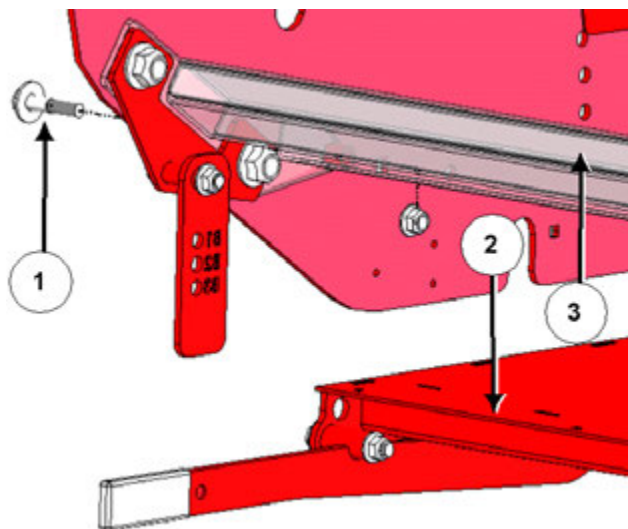

Figure 11: Remove lower discharge door
- c. Carefully remove the bolts (1) fastening the discharge door (2) to the front and rear tub walls, ensuring to properly support the door. Carefully lower the door to the ground; see *Figure 11*.
- ii. Note: For clarity, the tub floor (3) is transparent in *Figure 11*.